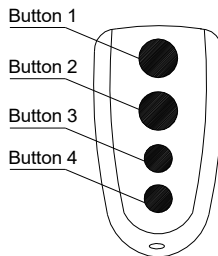

Fig.12 Remote transmitter
- The remote control works in a single channel mode. It has four buttons. See Fig.12 Remote transmitter. The function of button 1, button 2 、 button3 are the same and button 4 is pedestrian mode. With each press of the remote control button (1, 2 and 3) which has been programmed, the gate will close, stop, open or stop cycle.